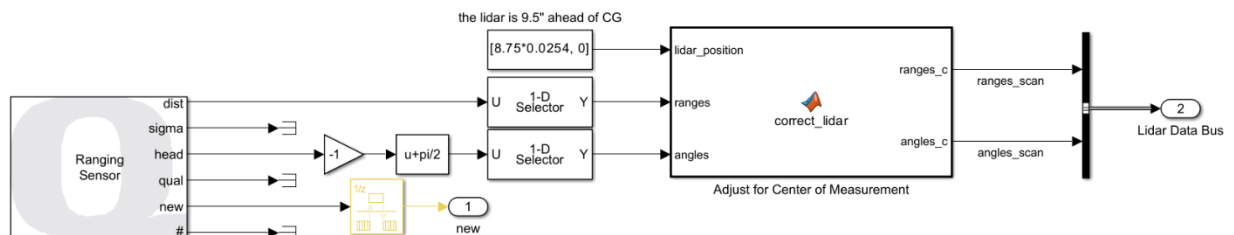

Figure 2. Lidar & Localization Block
1. In this lab you will be focusing on processing the LiDAR scan data to enable obstacle detection of the QBot. First, we will take a look at the **Lidar and Localization** subsystem, it should look like figure 2. In this subsystem, the reference frame of the LiDAR data is transferred from the center of the sensor to the center of the QBot. The **Quanser Ranging Sensor** block outputs distances measured in meters and the corresponding headings. Other properties such as the standard deviation (sigma) and quality (qual) of the measurement were not used in our application. To learn more about the output of **Quanser Ranging Sensor** block, right click on the block and select "help" to go to its documentation.